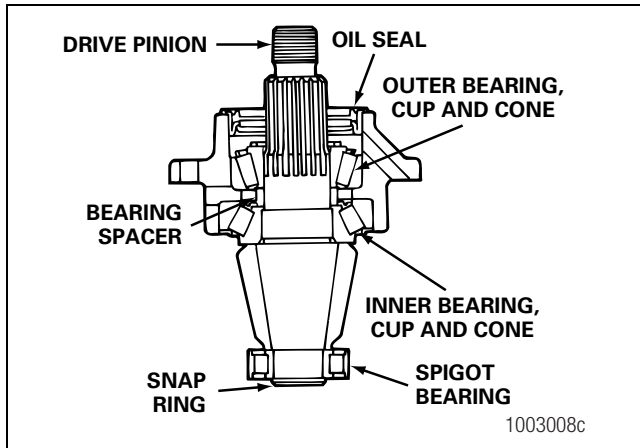
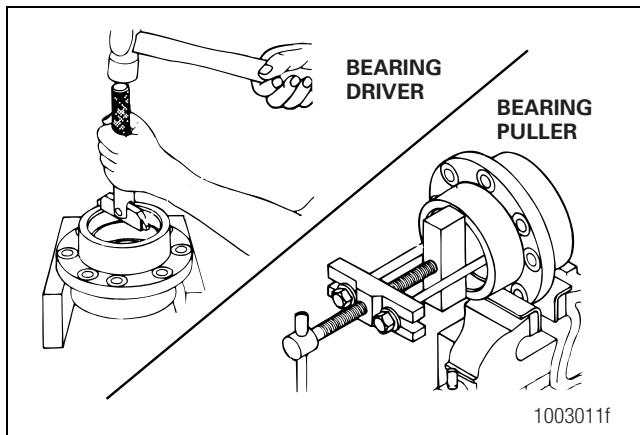

Figure 3.27
Figure 3.28
5. If the pinion bearings need to be replaced, remove the inner and outer bearing cups from the inside of the cage. Figure 3.27. Use a press and sleeve, bearing puller or a small drift hammer. The type of tool used depends on the design of the bearing cage. Figure 3.28.